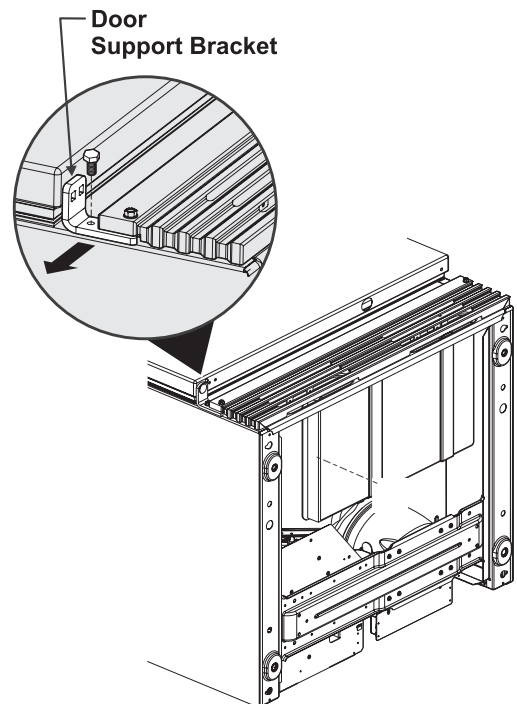

Figure 2
- FOR GLASS DOOR MODELS ONLY - Remove bottom door support bracket and screw opposite the door hinge using a 3/8” socket wrench. See Figure 2.